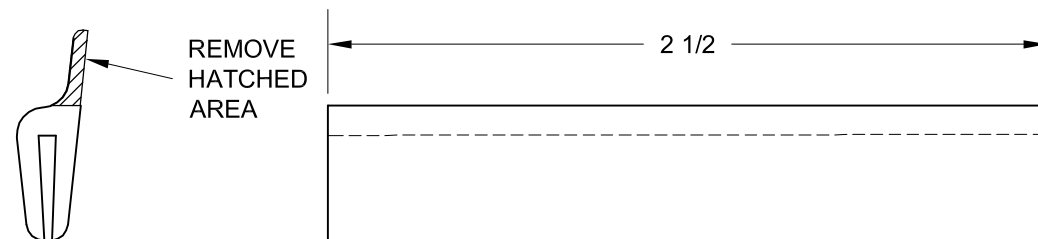

FIGURE 1: FUEL CRADLE PADS
Step 1: Create two F-1048E Fuel Cradle Pads out of rubber channel as shown in Figure 1.